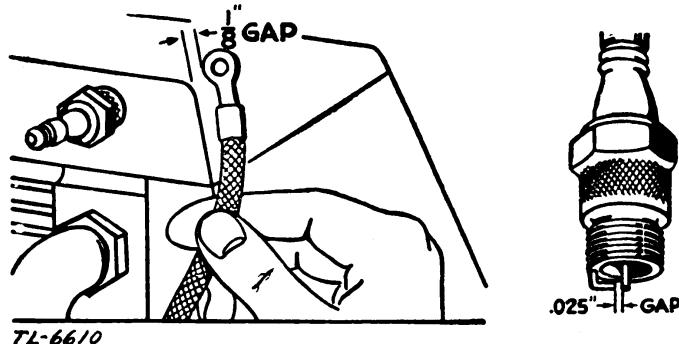

FIGURE 11. Checking spark and spark plug.
ignition system, with the exception of the spark plug, is operating satisfactorily (fig. 11). If no spark occurs, check the spark plug, the spark plug cable, contact points, and capacitor, in the order named.
b. Spark plugs. Spark plugs should be cleaned and the points reset to 0.025 inch after each 50 hours of operation (fig. 11). After 100 hours, the plugs should be replaced. Points gradually burn away in service. If the porcelain is cracked or broken, the plug may not fire. Water on the outside of the spark plug may permit the high-voltage current to leak over the surface of the porcelain. Dirt or carbon will produce the same effect. The spark plug can be cleaned by washing with gasoline. Points should be scraped or sanded. If a plug is damaged or broken, replace it with a new one. When replacing the spark plug in the cylinder head, grease the threads lightly. Do not get grease on the points. The spark plug